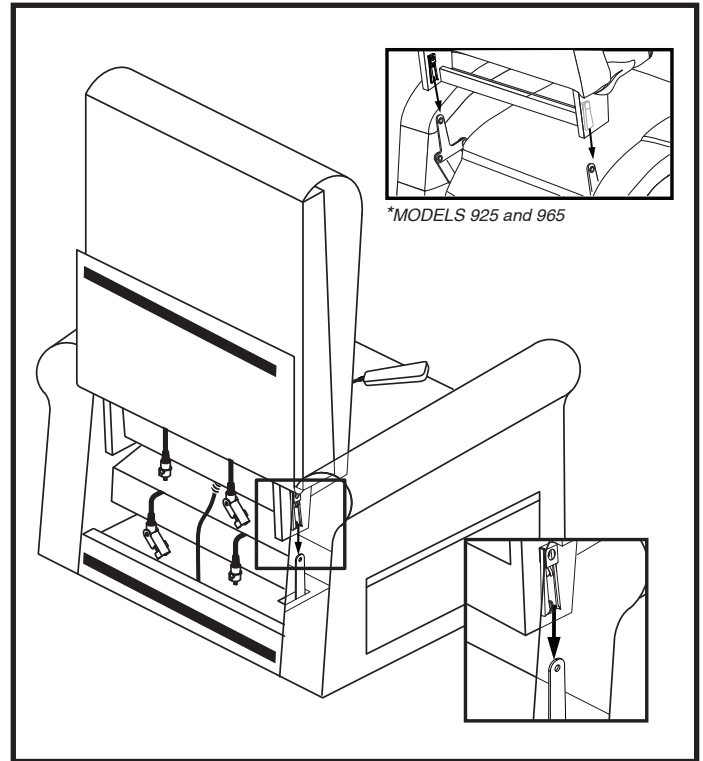

Figure 3. Chair Back Installation
4. To install the back, align the Knock-Down (KD) sleeves in the back with the KD brackets in the chair base, slide the back down on the base. **See figure 3.** Push down on the top of the back to lock the back into position. You will hear a click from each side of the chair to ensure the back is locked in properly.